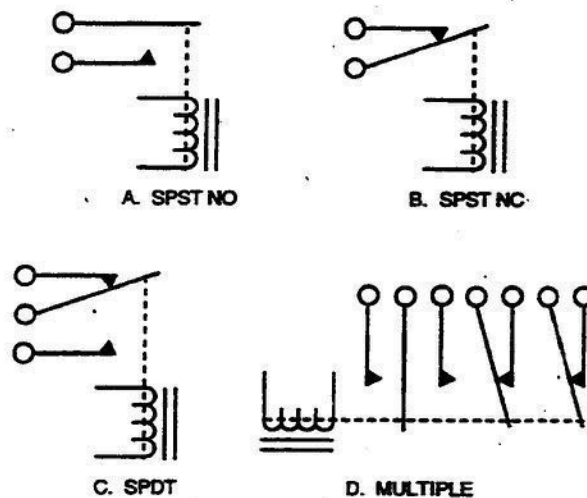

Figure 2-67. Schematic symbols.
Electromagnetic relays are represented by the schematic symbols shown in figure 2-67. Figure 2-67, A represents a single-pole, single-throw (SPST) relay with the contacts normally open (NO). When current flows through the coil, the contacts
close. Figure 2-67, B shows a SPST relay with the contacts normally closed (NC). When current flows through the coil, the contacts open. Figure 2-67, C shows a single-pole, double-throw (SPDT) relay with one contact NC and one NO. This type of relay is used to transfer current from one circuit to another. A single relay may have multiple poles with any combination of opened or closed contacts (fig. 2-67, D).
The relays shown in figure 2-67 are in a de-energized (unmagnetized) condition; no current is flowing through the coils. In all schematic diagrams, the relays are shown de-energized unless otherwise stated.